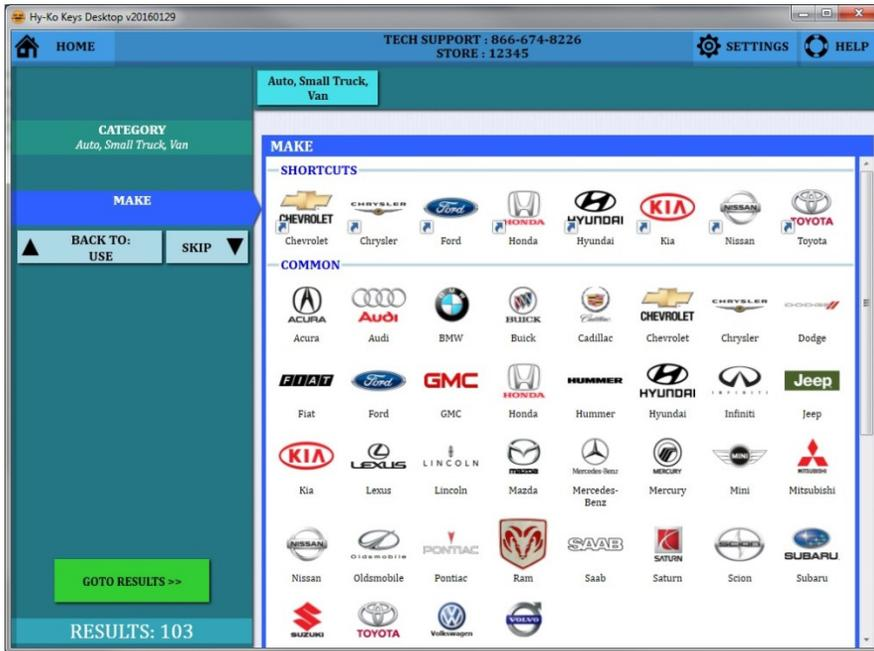

fig. 59
- Choose the Make by clicking on the appropriate manufacturer logo or by typing it in the 'MAKE' box on the left (see fig. 59).